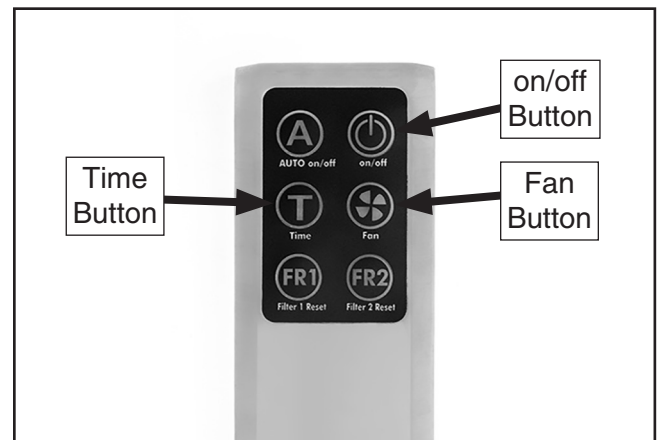

Figure 10. Remote control buttons.
5. Press **on/off** button on remote control (see **Figure 10**) to turn machine **ON**.
6. Cycle machine through all fan speeds by pressing Fan button on remote (see **Figure 10**).
7. Cycle machine through all time settings by pressing Time button on remote (see **Figure 10**).